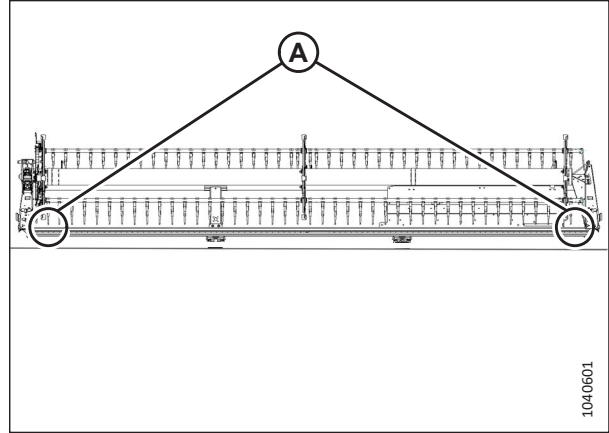

Figure 5.24: Single-Reel Header Measurement Locations
- Figure 5.24, page 212 – single-reel headers